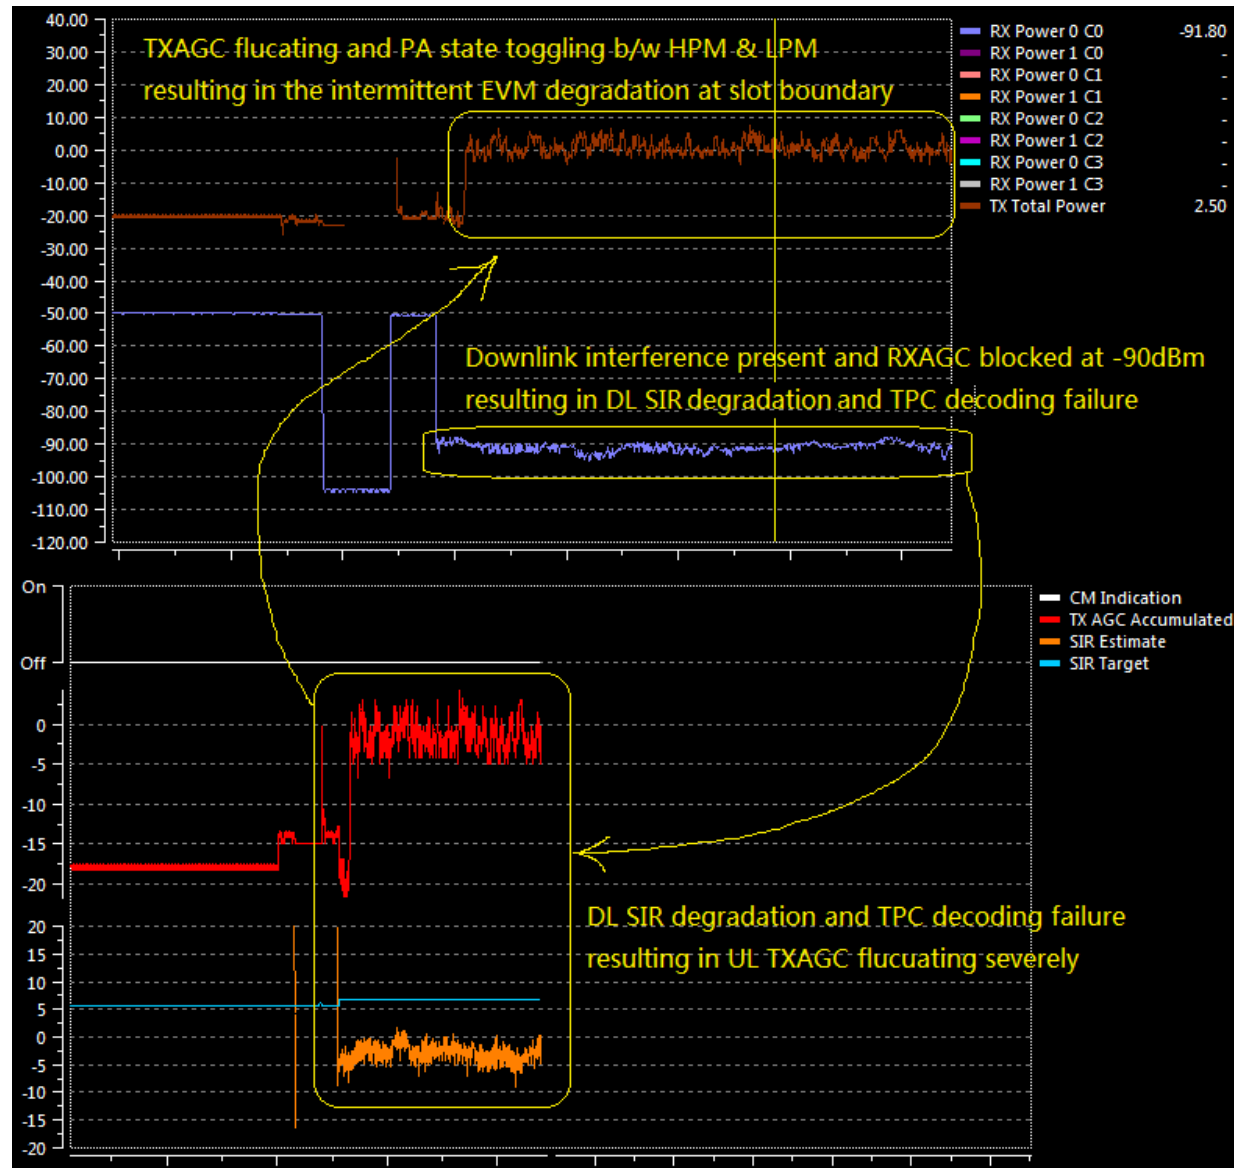

Figure 1
- While analyzing the logs and double checking the settings at Test Equipment side, the culprit is narrowed down as below, also please see **Figure 1**:
- 按照现象描述的,该问题的调试重点在缩小手动测试和自动脚本测试的差异。经过log分析和检查仪器设置,问题定位如下,详见**图1**：